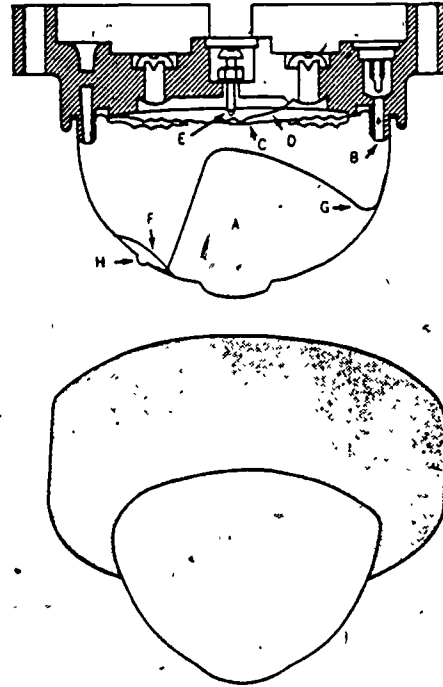

Figure 6. Automatic Heat Detector or Thermostat Unit
**RATE-OF-RISE PRINCIPLE OF OPERATION.** When a fire occurs, air temperature rises rapidly, especially at the ceiling of an enclosure. This rapid rise of temperature, 15 to 20 degrees or more per minute, affects the Automatic Heat Detector Unit. The air in chamber (A), see figure 6, is expanded, reacts against thin flexible metal diaphragm (C) which moves spring (D) to close an electrical circuit with screw (E).
**FIXED TEMPERATURE PRINCIPLE OF OPERATION.** Completely independent of the "rate-of-rise" feature, the "fixed-temperature" principle utilizes a metallic spring (G), held to inactive position by a temperature-rated fusible alloy (F). Thus, should the "rate-of-rise" feature not respond where smoldering fires create slow temperature increases, when the heat at the ceiling reaches the fusing temperature of the alloy (F), spring (G) is released. This action then moves spring (D) to close electric circuitry with screw (E). Temperature ratings are 135 and 190°F. Selection is important, being determined by the maximum ambient air temperatures, known and anticipated, at the detector unit under normal conditions.
**TELL-TALE INDICATOR.** When the heat detector unit is operated by the "fixed-temperature" feature, the unit cannot be reset and must be replaced. A unique tell-tale indicator (H) of figure 6 is provided in such instances. Looking like a small "button" on the outside of the chamber, this button becomes a hole when the alloy (F) is melted. This arrangement makes it possible to readily detect a unit which has been activated.